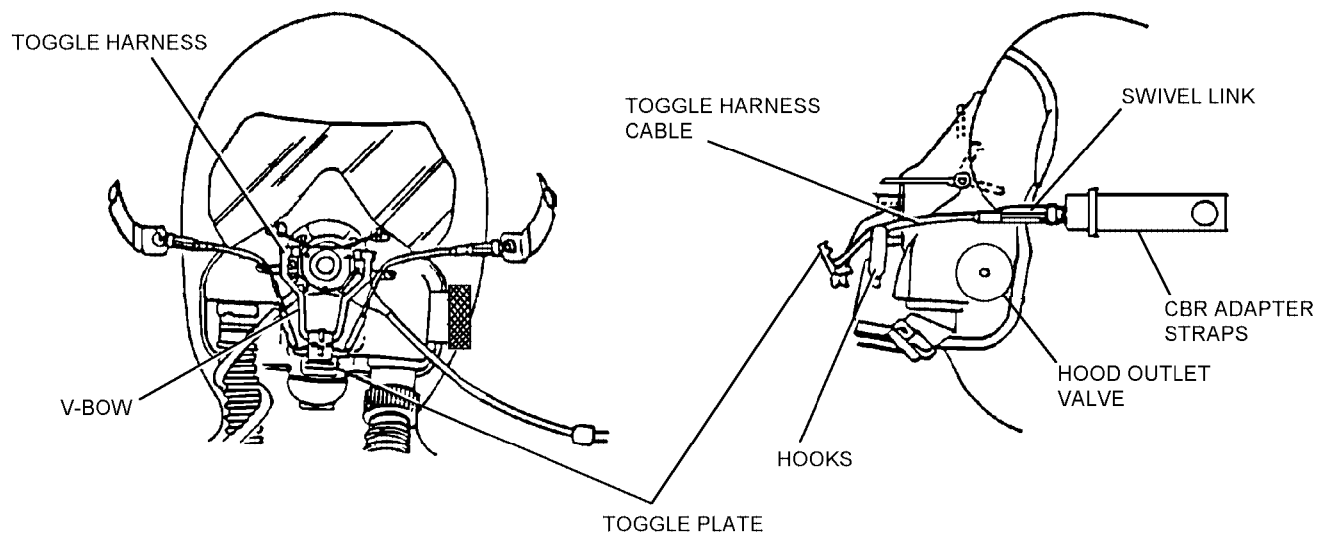

Figure 4-16. Toggle Harness Assembly
4-21. Toggle Harness Assembly. The toggle harness assembly (figure 4-16) is mounted on the front of the faceplate around the microphone. The assembly is held in place by four (4) countersunk screws which pass through the mask harness assembly and into the faceplate. The screws are drawn tight by four self-locking nuts. A V-shaped hinged bow (V-bow), which freely pivots upward or downward, is suspended from two rectangular studs protruding from the mask harness assembly. Attached to the end of the bow is a toggle plate which pivots upward and downward, and provides the tension for tightening the mask to the aircrewmember's face. Two toggle harness cables are connected to